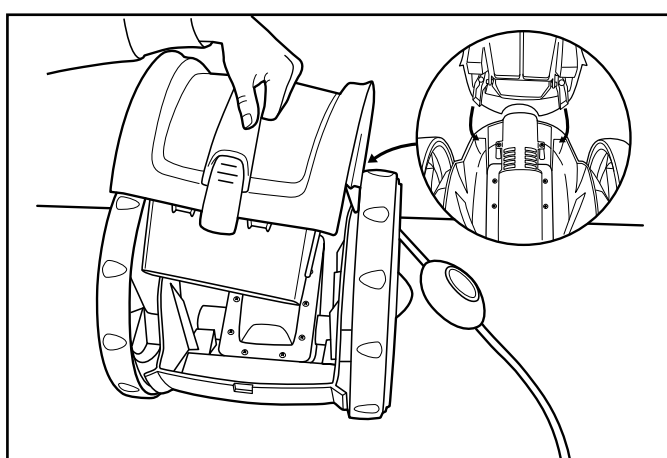

Figure 14. Install the Cover
3. Locate the top cover hinges under the body shoulders, as shown in Figure 14.